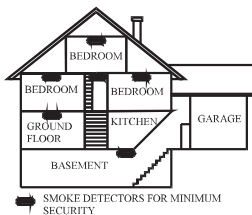

Figure 3: Location for placing smoke and heat detectors for a multi-floor residence
- ◆ Install a smoke and heat detector on every floor of a multi-floor home or apartment, as shown in Figure 3.